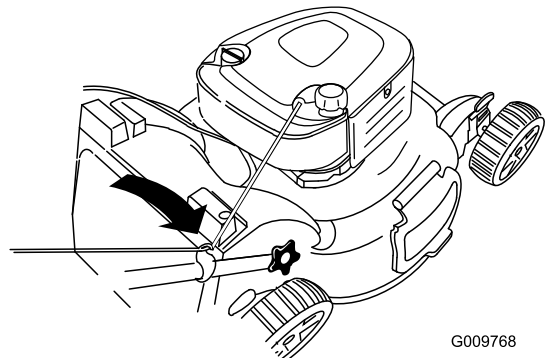

Figure 20
2. Route the starter rope around the lower-rope guide (Figure 20).